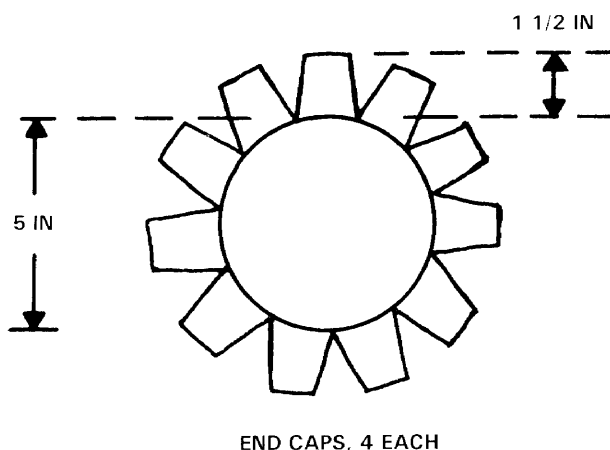

Figure I-5. End piece for flotation device.
(1) Cut one piece of nylon duck fabric 18-inches wide and 9-feet, 3-inches long.
(2) Cut one piece of nylon duck fabric 18-inches wide and 3-feet, 9-inches long.
(3) Cut four circular end pieces of nylon duck fabric 8 inches in diameter.
(4) Cut tabs in the four end pieces as shown in Figure I-5.
(5) Cut twelve pieces of 9/16-inch webbing 32-inches long and heat sear the ends.
(6) Sew ½-inch seams on the long sides of sleeves and 1 ½-inch seams on the short ends.